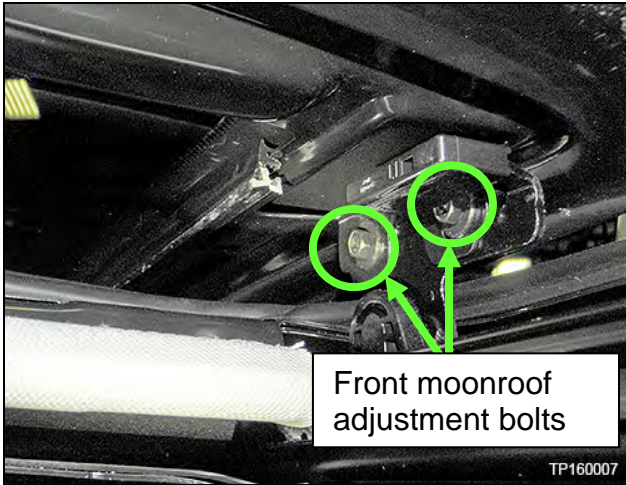

Figure 57
8. Loosen the moonroof adjustment bolts (Figure 57 for front and Figure 58 for rear) and adjust the glass height to the proper position or height.